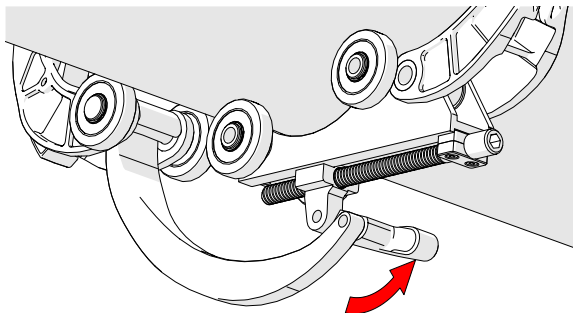

Fig. 161 - Press down to lock
8. Rotate the knob until the QuickLink Buckle's lever can be pushed down, locking the QuickLink Buckle in place (Fig. 161). The tightness of the **ROTIX** on the pipe can be adjusted using the QuickLink Buckle adjustment knob (Fig. 160-1).